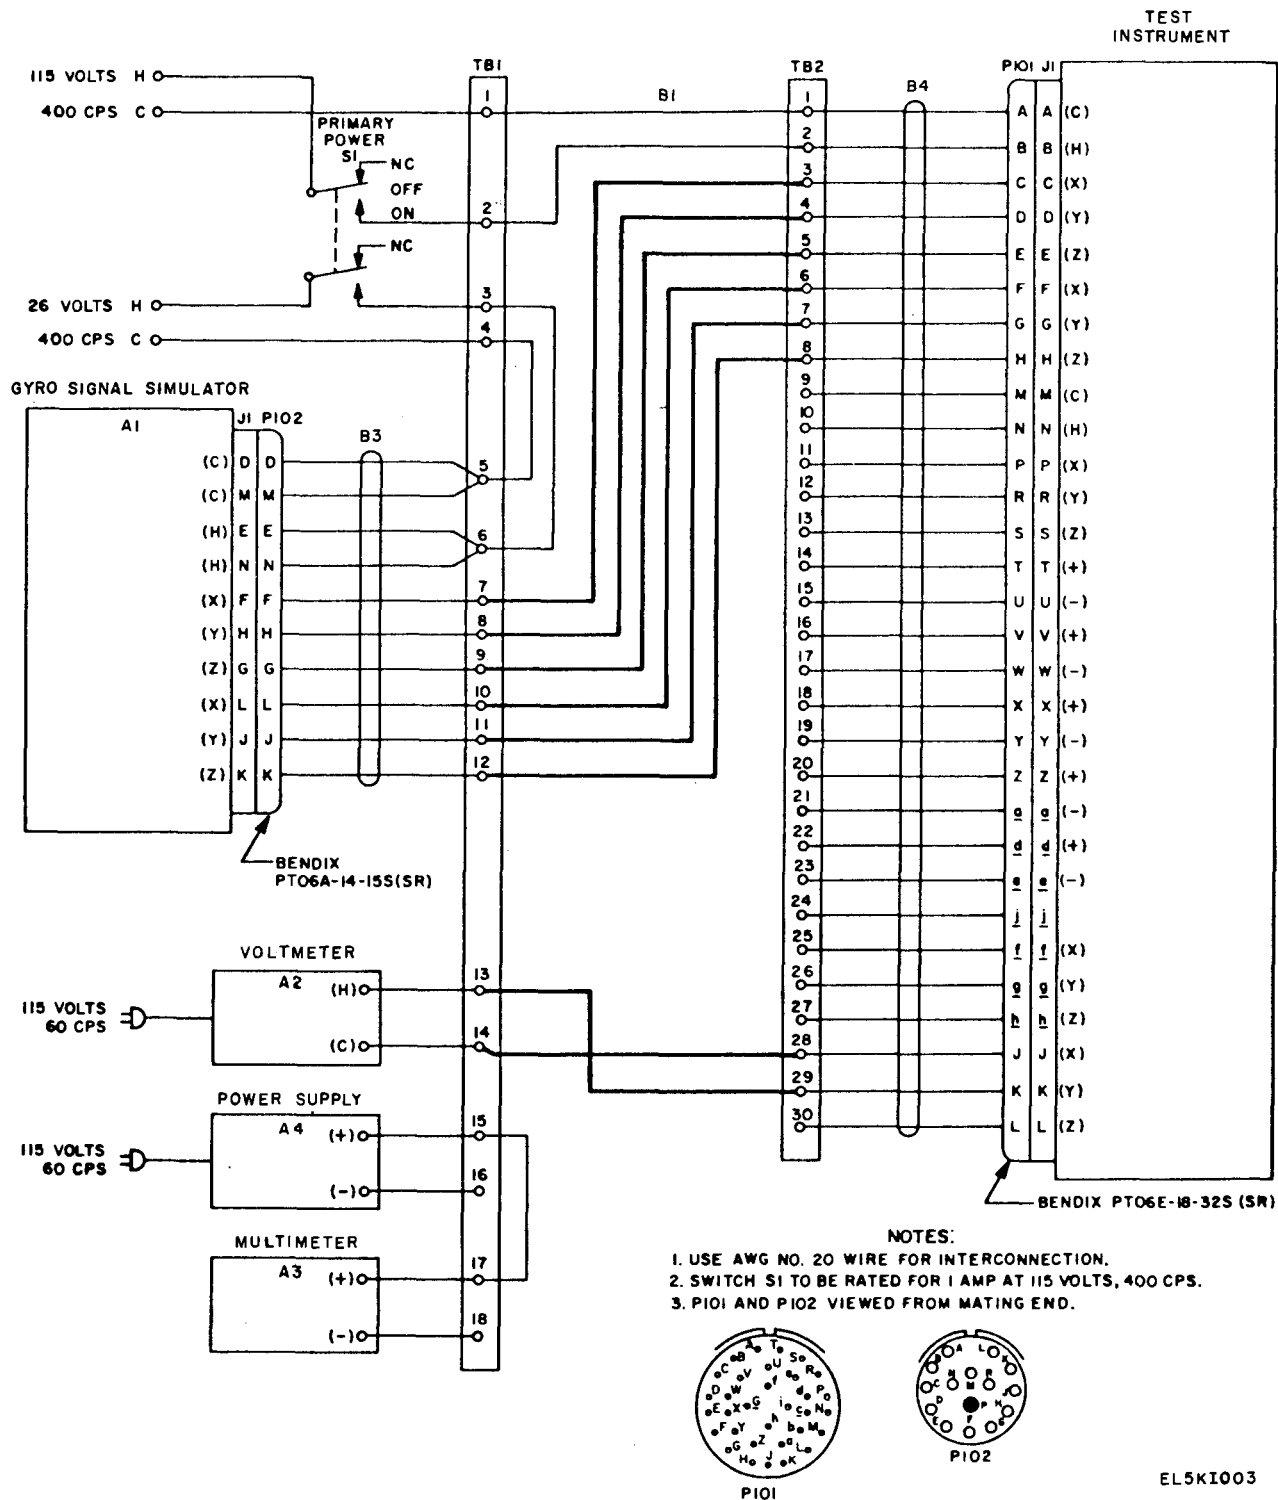

Figure 3. Heading dial setup.
10. Tests of Heading Dial. *a.* Connect equipment as shown in figure 3.